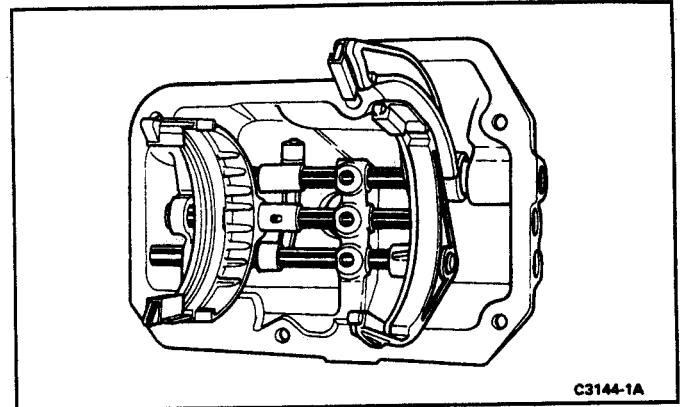

FIG. 17 Shift Housing Removed—Second Gear Position
4. Remove the shift housing tower from the transmission (Fig. 17).